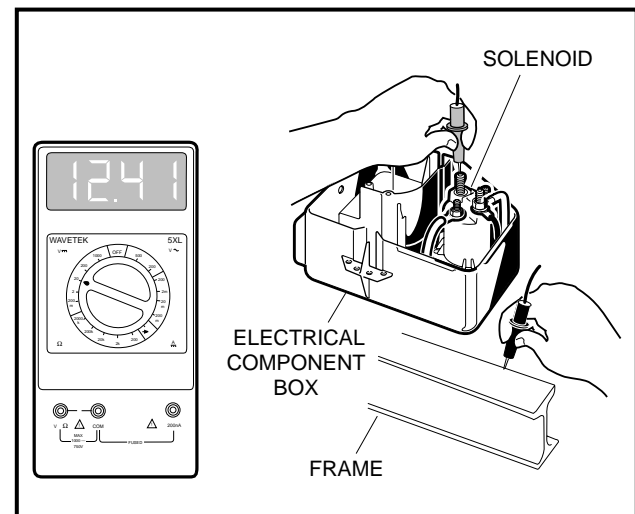

Figure 11-31 Test Solenoid Ground
- With the Forward/Reverse handle still in NEUTRAL, set the multimeter to 20 volts DC and place the red (+) probe on the large post that does *not* have wires connected to it. Place the black (-) probe on the vehicle frame. Turn key switch to the START position and listen for the solenoid click. While holding the key in the START position, the meter should read full battery voltage. If the reading is incorrect, replace the solenoid (**Figure 11-31, Page 11-28**).